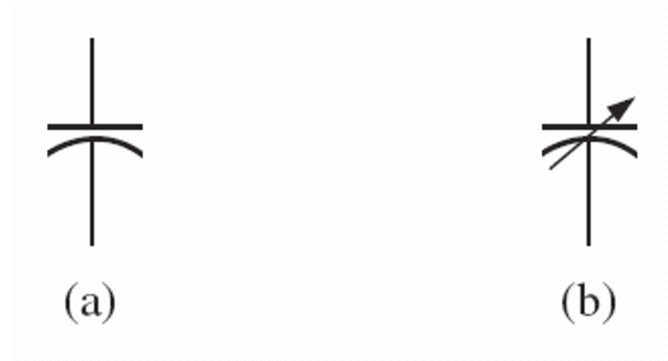

FIG. 10.11 Symbols for the capacitor: (a) fixed; (b) variable.
- The symbol for the fixed capacitor appears in Fig. 10.11(a).